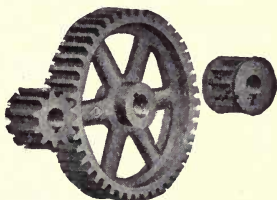
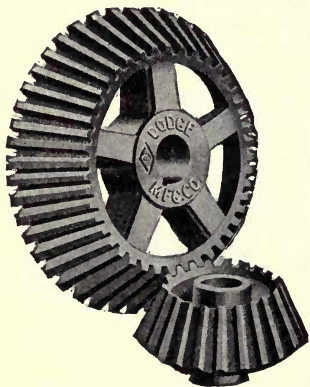
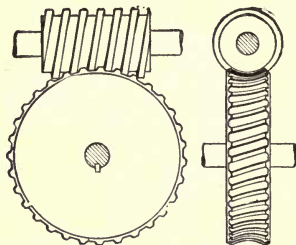

FIG. 149.—Spur Gear.
FIG. 150.—Bevel Gear.
FIG. 151.—Worm Gear.
**336. Types of Gears.**—Of the different types of gears in use the principal ones are the *spur* (Fig. 149), the *bevel* (Fig. 150), and the *worm* (Fig. 151) gears. Spur gears are wheels with the teeth or cogs arranged round the outer or inner surfaces of the rim, in the direction of radii from the center, and their action may be regarded as that of two cylinders, rolling one upon the other. Bevel gears are wheels the teeth of which are placed upon the outer periphery (circumference) in a direction converging to the apex of a circle and their